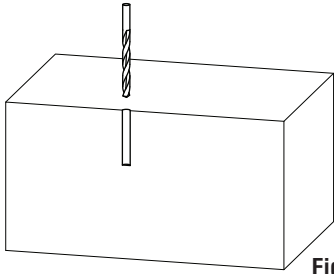

Fig. 3
1.a) Mark and drill 3/8" diameter hole in four locations. See Fig. 3.